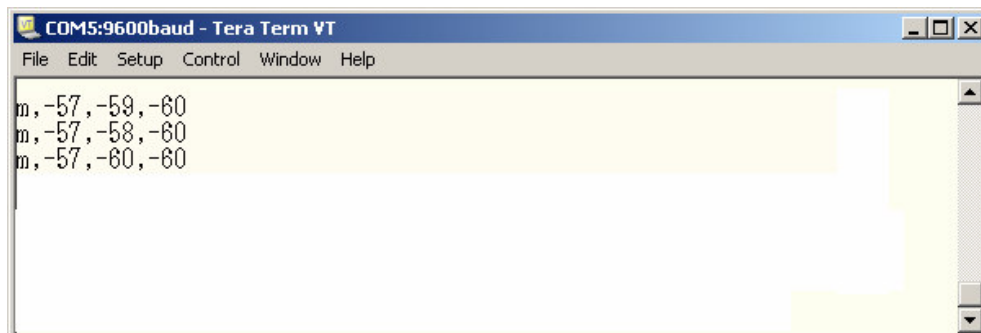
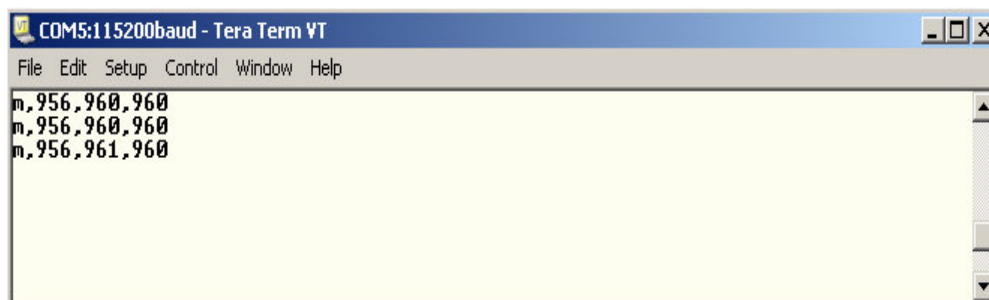

Figure 4.4 White surface detection with sercom version 1.1.5 or older
Figure 4.5 White surface detection with sercom version 1.1.6
6) To verify if the sensor detects white colour, enter "M" while placing the *e-puck* on a white surface. If your **sercom.hex** is version 1.1.5 or older, all data you get should be negative as in Figure 4.4. If using the latest sercom.hex version 1.1.6 as in Figure 4.5, the data should be around 950.